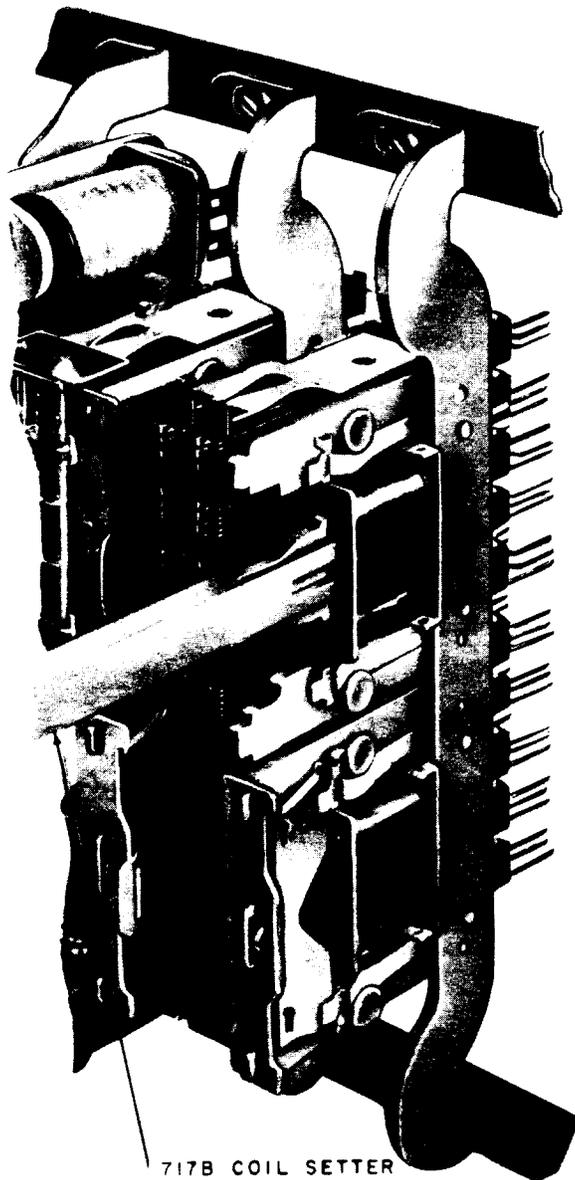

Fig. 17—Positioning Coil With 717B Coil Setter
- (1) Manually start the new coil on the core with the coil terminals at the rear and to the left of the core. Make sure the terminals enter the associated slots at the rear of the relay. If the terminals do not enter the slots, bend them at their base so they will enter.
- (2) Place the long slot of the 717B coil setter over the core leg. Position the coil on the core leg by gently tapping the coil setter with the 4-ounce riveting hammer until the bottom of the slot in the coil setter engages the end of the core leg, as shown in Fig. 17.
- (3) If the relay is provided with a magnetic shunt, place the shunt on the core against the coil with the upper and lower legs of the shunt toward the front end of the core and the vertical portion of the legs to the left of the core. If necessary, use the  $\blacklozenge$  long-nose pliers to hold the shunt while placing it on the core. Check that the upper and lower legs of the shunt clear their adjacent legs of the core by 1/32 inch minimum. If necessary, remove the shunt and bend the legs with the  $\blacklozenge$  long-nose pliers to obtain this clearance. Place the long slot of the 717B coil setter over the core leg, as shown in Fig. 17. Position the magnetic shunt on the